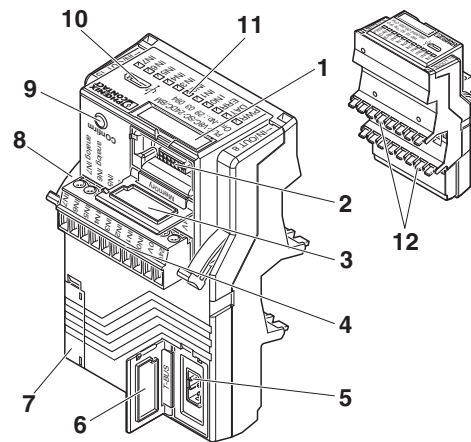

Figure 3-2 Connection and operating elements of basic logic modules
1. Remove the covering hood (7) from the basic module (see Figure 3-2 on page 21).
3. Insert the extension module in the bridge shafts of the PLC-INTERFACE terminal blocks. Contact is automatically established with the basic module via the plug-in connection (7) and (13) (see Figure 3-2 on page 21).